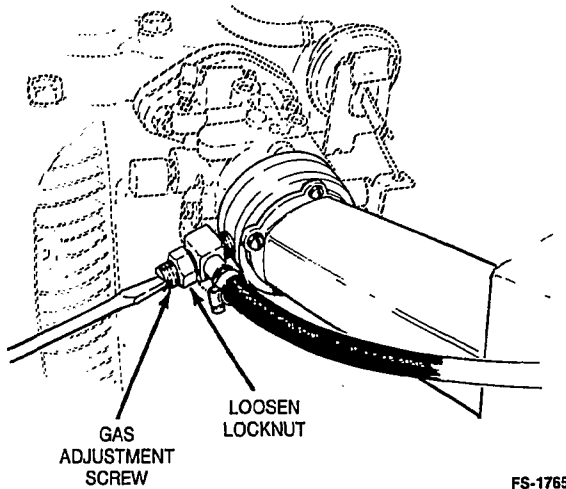

FIGURE 6-35. ADJUSTING FUEL FLOW AT CARBURETOR
1. Loosen the lock nut on the gas adjustment screw (located near the LP gas inlet (see Figure 6-35).